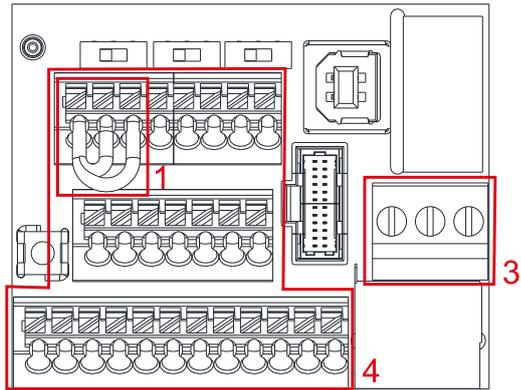

Figure 6-6 Control Terminal Distribution Diagram
8. The factory default is +24 VDC / S1 / S2 short-circuited by jumper, as shown in Area 1 in Figure 6-6. Refer to Figure 4-2 in Chapter 4 WIRING for details.
10. The RELAY terminal uses the PCB terminal block (as shown in Area 3 in Figure 6-6):
11. The Control terminal uses the push-in spring terminal block (as shown in Area 4 in Figure 6-6):